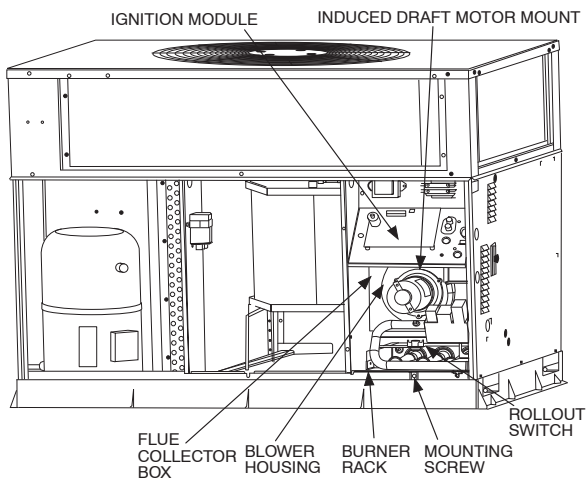

Fig. 17 - Blower Housing and Flue Collector Box
2. Remove the flue collector box cover (See Fig. 17) from the heat exchanger assembly. Inspect the heat exchangers.
Unit is equipped with a direct spark ignition 100 percent lockout system. Ignition module is located in the control box (See Fig. 17). Module contains a self-diagnostic LED. During servicing, refer to label diagram for LED interpretation.
7. Remove the mounting screw that attaches the burner rack to the unit base (See Fig. 17).
8. Slide the burner rack out of the unit (See Fig. 17 and 20).